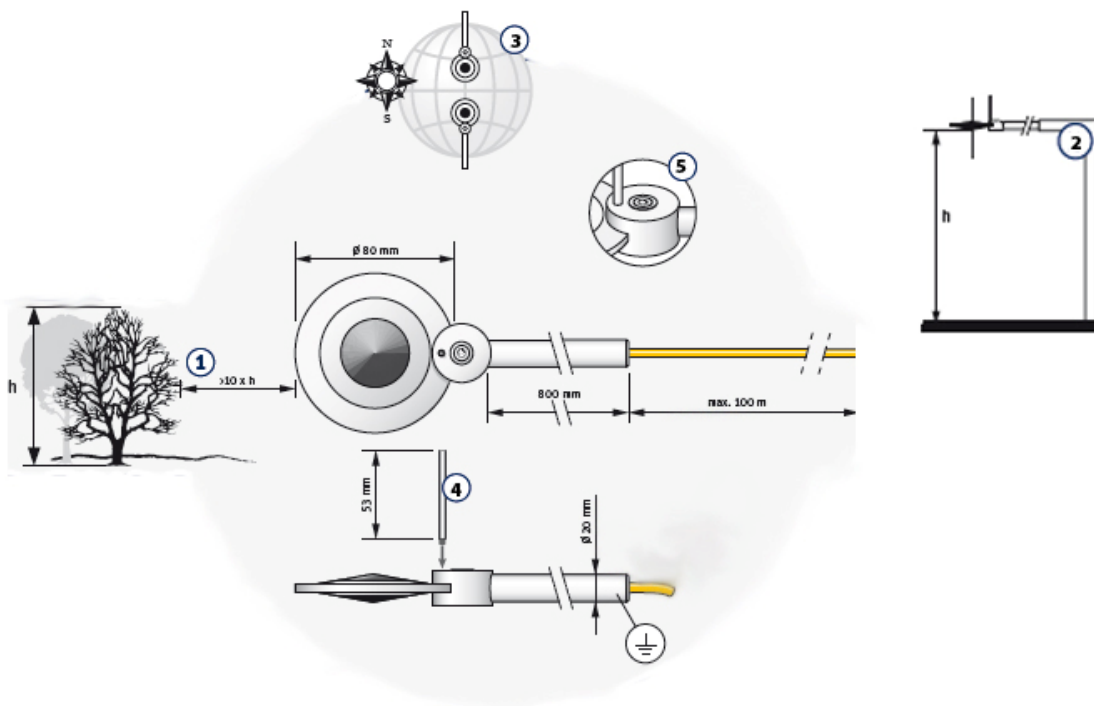

FIGURE 4-1. Siting and mounting diagram for the NR-LITE2
1. Mount the sensor so that no shadow will be cast on it at any time of day from obstructions such as trees, buildings, the mast, or structure on which it is mounted (1 in FIGURE 4-1).
2. To avoid shading effects and to promote spatial averaging, the NR-LITE2 should be mounted at least 1.5 m above the ground surface. It is recommended that the NR-LITE2 be mounted to a separate vertical pipe at least 25 ft from any other mounting structures (2 in FIGURE 4-1).
3. Orient the sensor towards the nearest pole to avoid potential problems from shading (3 in FIGURE 4-1).
1. Screw in the bird repellent stick, which is shipped with the calibration documentation (4 in FIGURE 4-1).
4. Perform a coarse leveling of the sensor using the sensor's bubble level (5 in FIGURE 4-1).